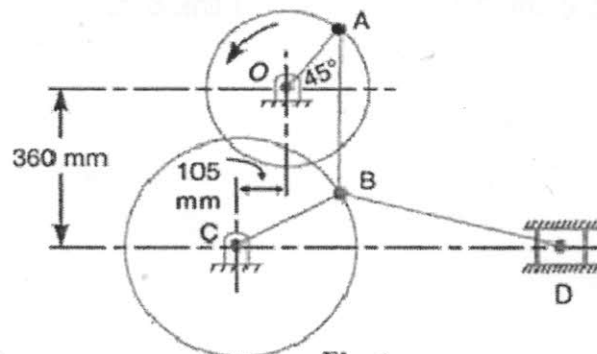

Fig.3
3. In the toggle mechanism shown in Fig. 3, the slider D is constrained to move on a horizontal path. The crank OA is rotating in the CCW direction at a speed of 180 rpm , increasing at the rate of 50 rad/s^2 . The dimensions of the various links are as follows: $OA = 180\text{mm}$; $CB = 240\text{mm}$; $AB = 360\text{mm}$; and $BD = 540\text{mm}$. For the given configuration, find 1) Velocity of slider D and angular velocity of BD and, 2) Acceleration of slider D and angular acceleration of BD .